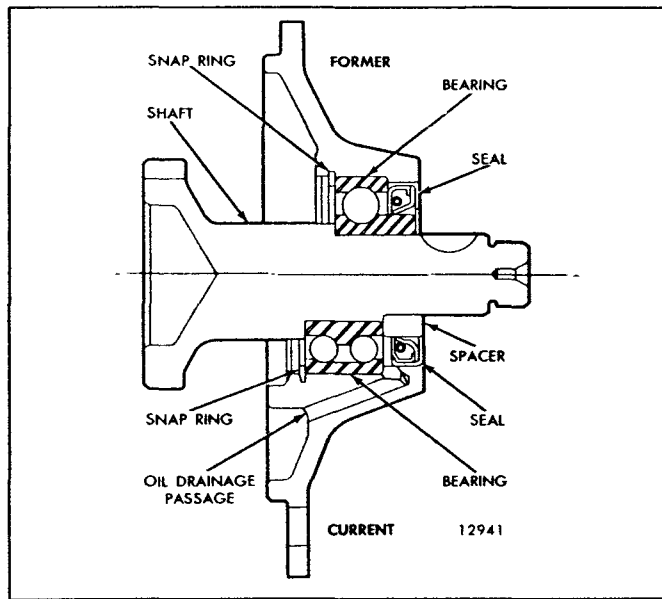

Fig. 6 – Former and Current Drive Plate Type Accessory Drive
*On former accessory drives (Fig. 6), install the bearing with the protruding face of the inner race towards the retainer.*